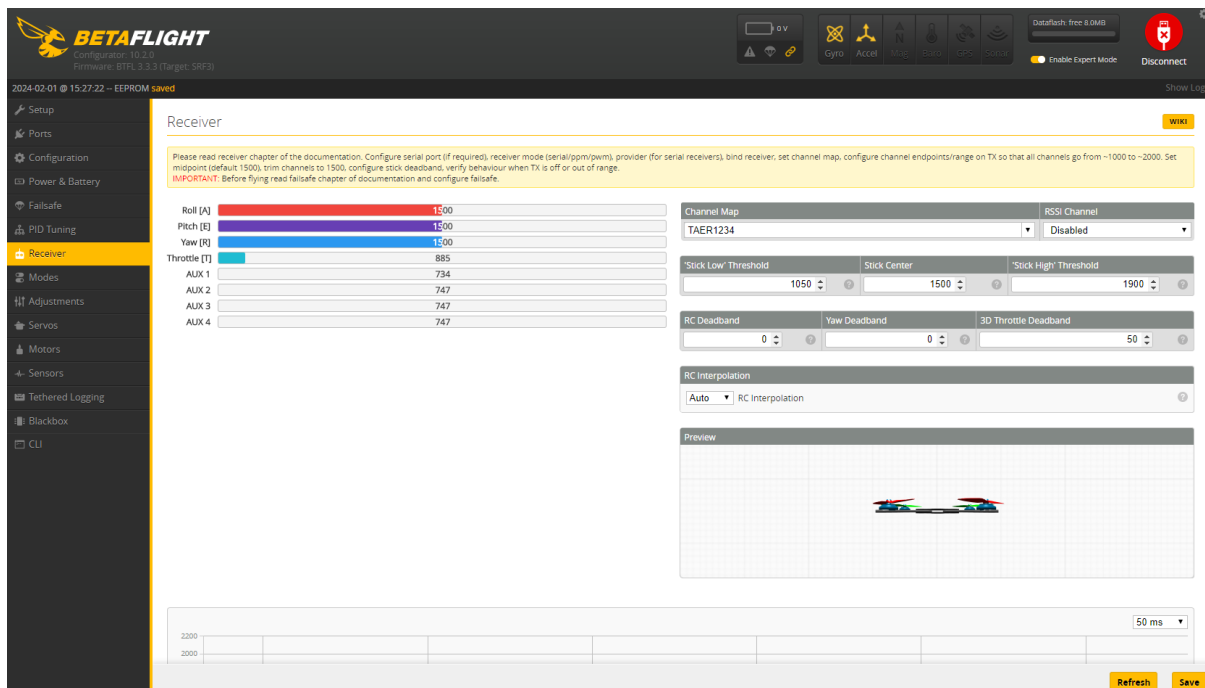

Figure 5 Betaflight receiver configuration menu
3. Go to the “Receiver” tab (see Figure 5)
The receiver menu (see Figure 5) displays the PWM values from the receiver in real time via the channel mapping in the top left of the menu and over a period of time via the scrolling graph at the bottom of the menu. This menu is useful when trying to determine if signals are reaching the flight controller as expected.